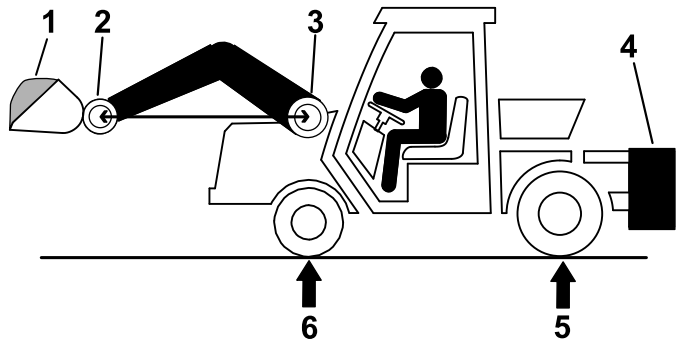

Figure 30
1. Put a full load in the bucket, lift the bucket to the furthest position forward as shown in Figure 30.
2. At a scale, measure the gross vehicle weight (GVW) at the front and rear axle, with the loader raised so that the bucket pivot pin is as high as the boom pivot pin (Figure 30).
Note: If R is **less** than required rear axle weight (RRAW), no ballast is required (Figure 30).